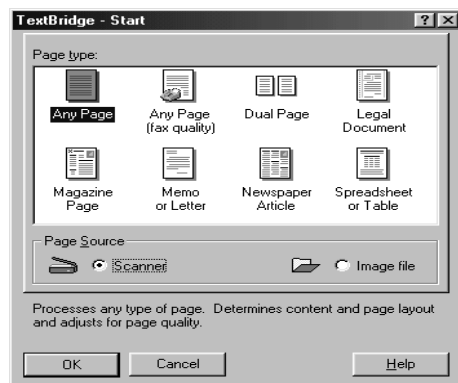

Figure 28: Selecting 'Page Source'
4. Set 'Page Source' to 'Scanner' by clicking with the mouse (Figure 28).